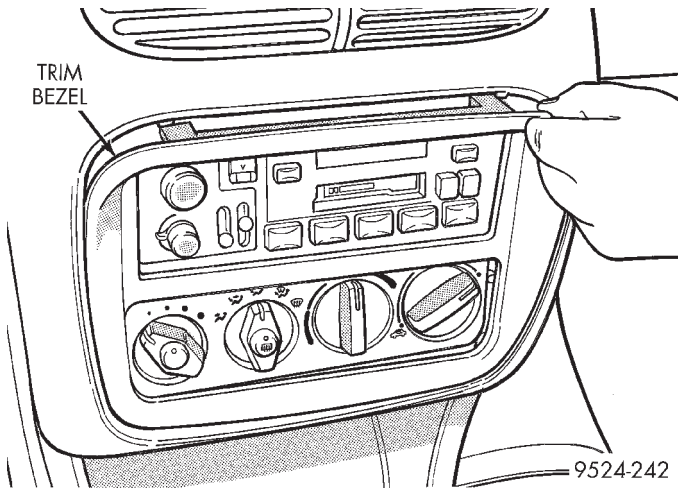

Fig. 29 Control Module
- (1) Place the ignition key in the OFF position before removing control module.
- (2) Remove trim bezel (Fig. 29).